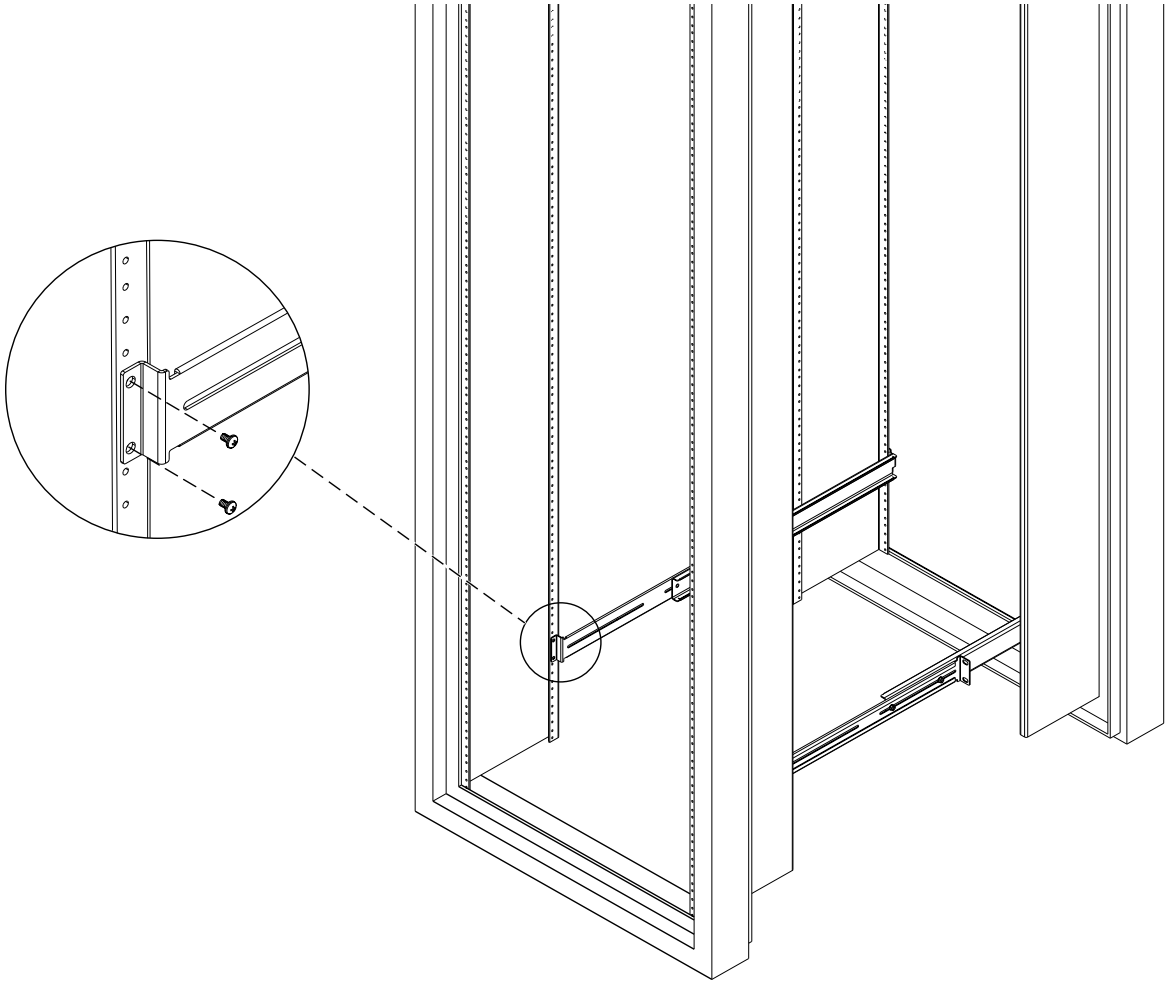
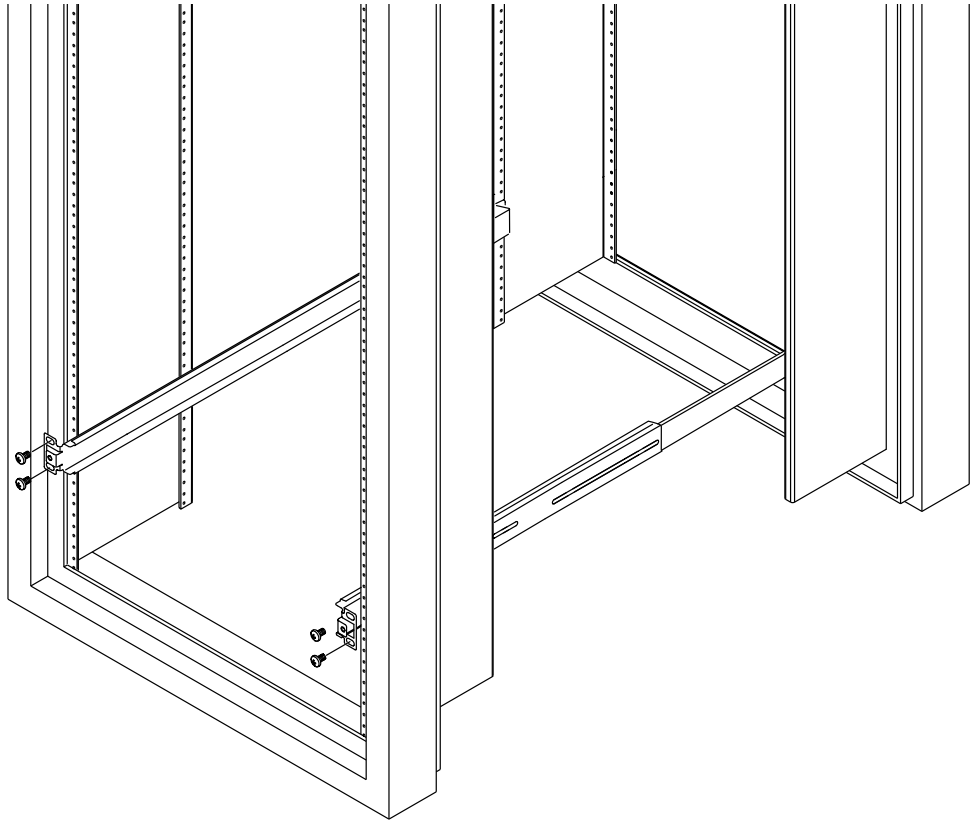

FIGURE 1-3 Fixing Slide Mounts in Sun 72-inch Expansion Rack – Rear View (side panels removed for clarity)
FIGURE 1-4 Fixing Slide Mounts in Sun 72-inch Expansion Rack – Front View (side panels removed for clarity)
- FIGURE 1-3 Fixing Slide Mounts in Sun 72-inch Expansion Rack – Rear View (side panels removed for clarity) 3
- FIGURE 1-4 Fixing Slide Mounts in Sun 72-inch Expansion Rack – Front View (side panels removed for clarity) 4
Refer to FIGURE 1-3 on page 3 and FIGURE 1-4 on page 4. Leave the screws slightly loose to allow adjustment when the Netra unit is inserted.